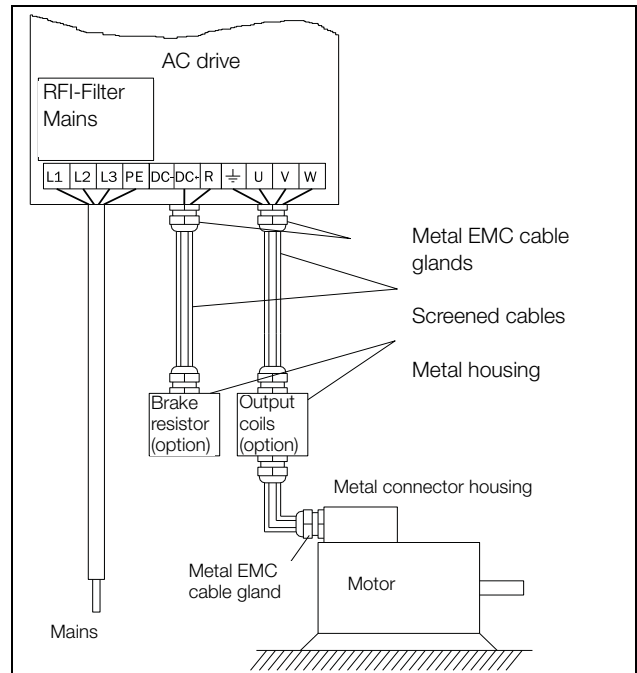

Fig. 72 Connection of mains and motor cables.
1. Connect the mains cables as in Fig. 72. The AC drive has, as standard, a built-in RFI mains filter that complies with category C3 which suits the Second Environment standard.
Connect the motor cables as in Fig. 72. To comply with the EMC directive you have to use screened cables and the motor cable screen has to be connected on both sides: to the housing of the motor and the housing of the AC drive.